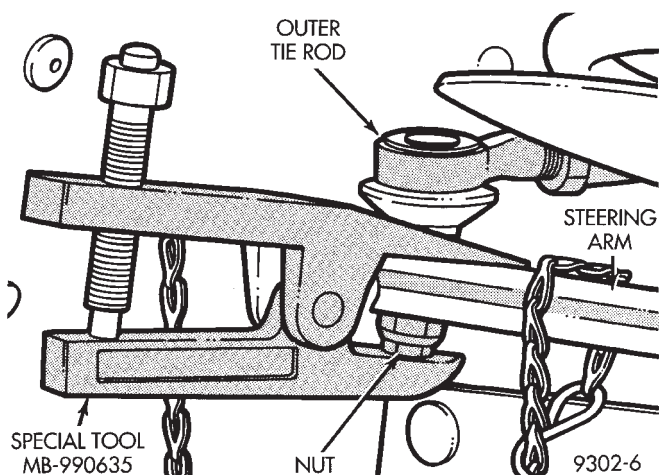

Fig. 9 Removing Outer Tie Rod From Steering Arm
(4) Loosen but do not remove the outer tie rod end to strut assembly attaching nut (Fig. 9). Then remove outer tie rod end from steering arm using Puller, Special Tool MB-990635 or equivalent (Fig. 9).